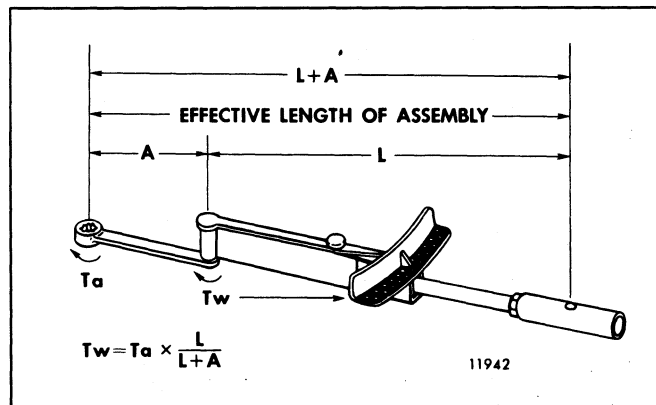

Fig. 6 - Calculating Torque with an Adaptor
If the effective length of the wrench (L) is 22" and the adaptor (A) is 2" long, you should have a reading of 55 lb—ft (75 N#m) on the wrench to have the bolt tightened to 60 lb—ft (81 N#m) torque (Fig. 6):